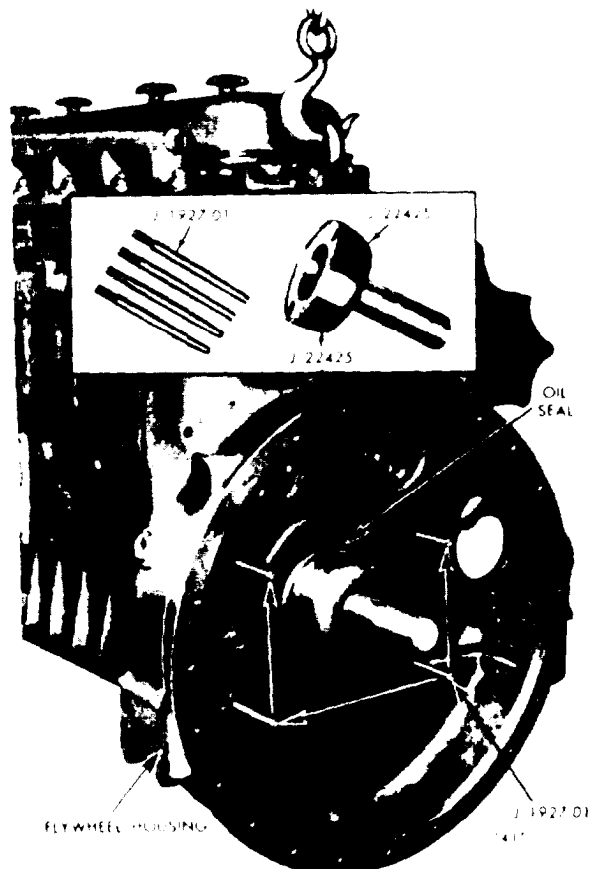

Figure 11B-106. Removing or Installing Flywheel Housing
6. Refer to Figure 11B-105 on page 11B-67 and install the six 3/8"-16 bolts with flat washers in the tapped holes of the idler gear hub and idler gear hole spacer, finger tight. Remove the pilot studs.